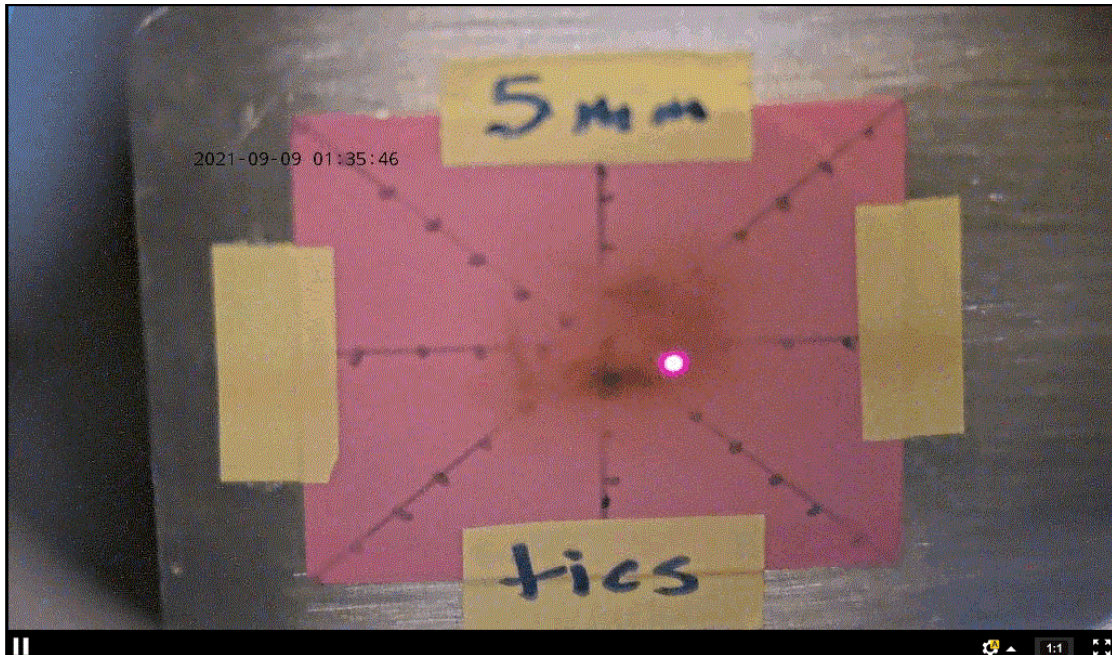

Figure 3: Beam spot on the Faraday cup viewer.
- a. make sure beam is clearly visible on the downstream viewer, use Chromox screen1. Beam should be within 10 mm (2-tick marks) around the center (see Figure 3)